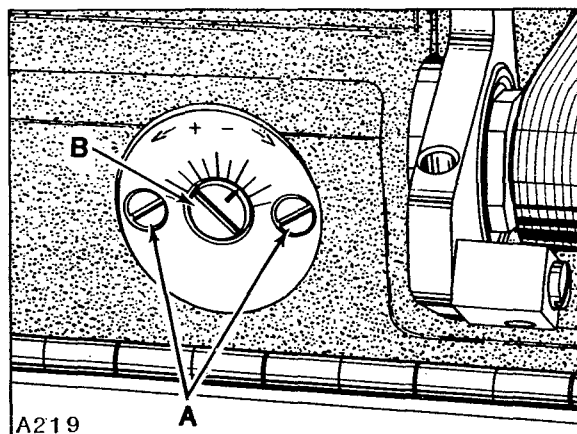

Fig. 13
Looper blade/s. Adjustment can be made by loosening two screws (A, Fig. 13) and turn eccentric stud (B) towards the plus side (counterclockwise) for MORE looper avoid or towards the minus side (clockwise) for LESS. When properly set, tighten screws (A).